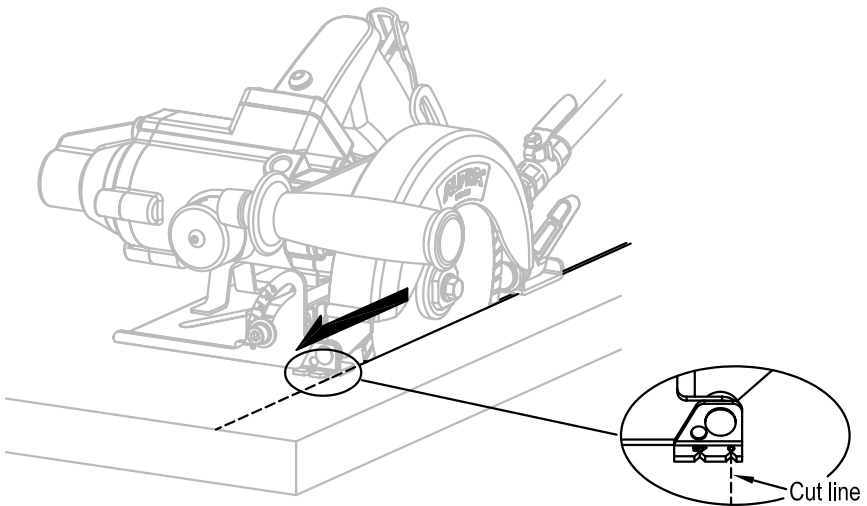

Figure 14
5. Advance the stone cutter slowly allowing the blade to do the work, keeping the base plate flat on the stone and the cut mark in line with your cut line. (See Fig. 14)